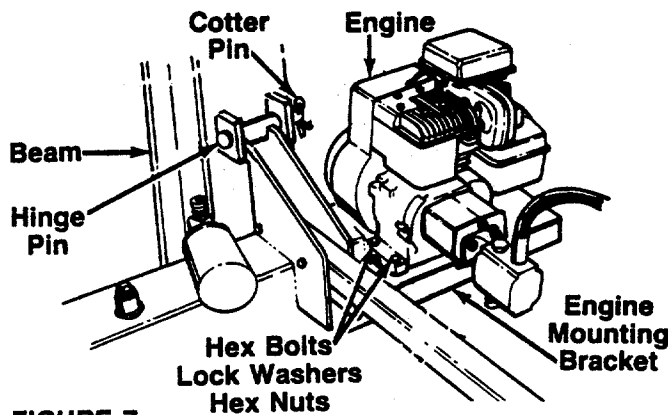

FIGURE 7.
2. Place the engine and pump assembly in position on the side of the reservoir tank assembly as shown in figure 7. Secure with hardware just removed. Tighten securely.